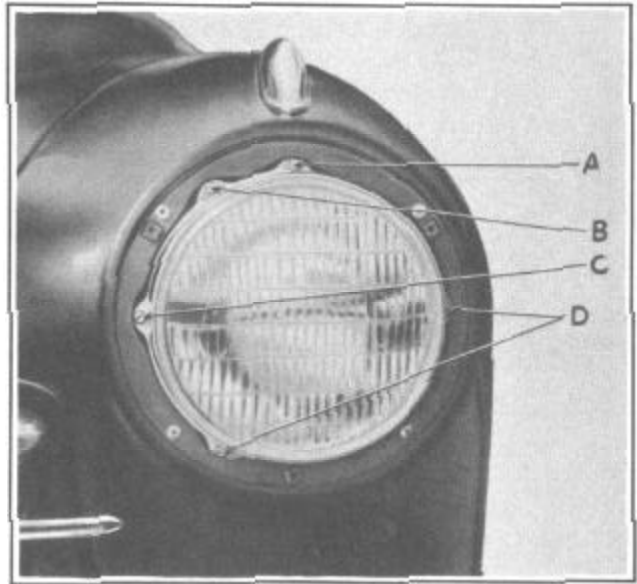

FIGURE 24
2. Loosen, but, do not remove, the three screws (B) and (D), Figure 24, holding the retainer. Do not disturb the aiming screws (A) and (C) at the top and left side of the unit.
Move the light beam to the right or left by turning the horizontal adjustment screw (C), Figure 24. Raise or lower the beam by turning the vertical adjustment screw (A).